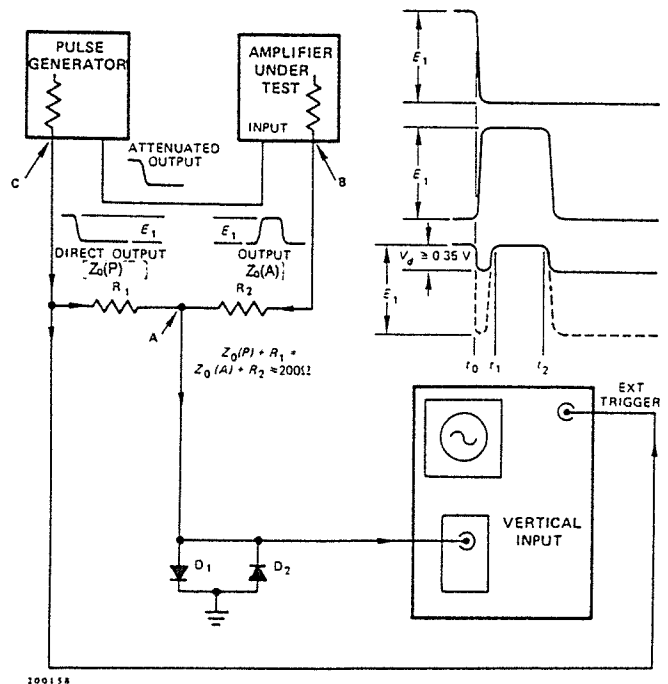

Fig. 6.1. Circuit Used to Measure Nonlinearity.
**LINEARITY** The integral nonlinearity of the Model 973 can be measured by the technique shown in Fig. 6.1. In effect, the negative pulse generator output is subtracted from the positive amplifier output to cause a null point that can be measured with excellent sensitivity. The pulse generator output must be varied between 0 and 10 V, which usually requires an external control source for the pulse generator (EG&G ORTEC Model 419). The amplifier gain and pulse generator attenuator must be adjusted to measure 0 V at the null point when the pulse generator output is 10 V. The variation in the null point as the pulse generator is reduced gradually from 10 V to 0 V as a measure of the nonlinearity. Since the subtraction network also acts as a voltage divider, this variation must be less than  $(10 \text{ V full scale}) \times (\pm 0.05\% \text{ maximum nonlinearity}) \times (1/2 \text{ for divider network}) = \pm 2.5 \text{ mV}$  for the maximum null-point variation.
**OUTPUT LOADING** Use the test setup of Fig. 6.1. Adjust the amplifier output to 10 V and observe the null point when the front-panel output is terminated in 100  $\Omega$ . The change should be <5 mV.